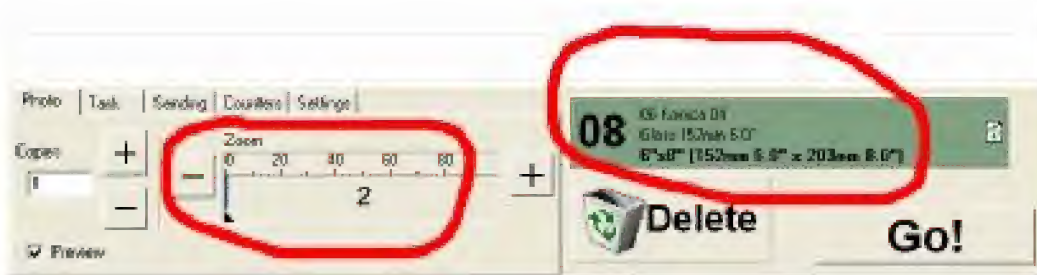

Fig 2.5.5
- On **Photo** tab select lens 002 by clicking **+** or **-** in **Zoom** (Fig 2.5.5).
- Select format 152x203mm (Fig 2.5.5).